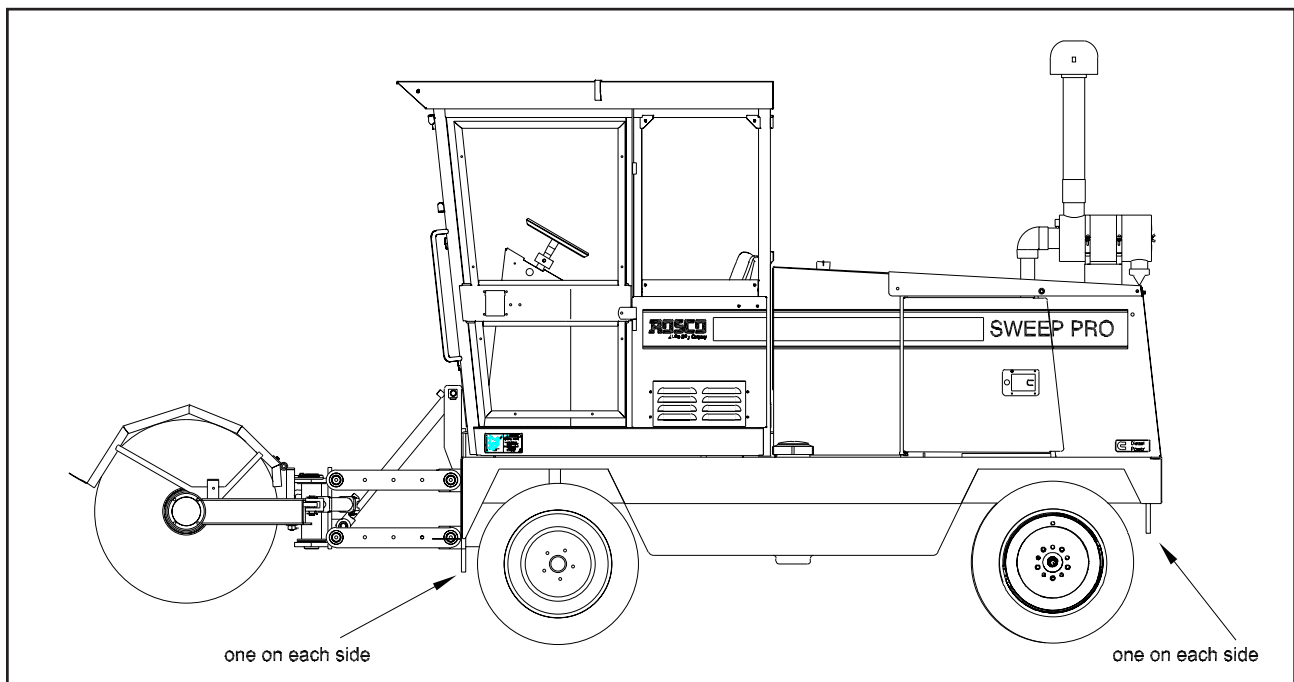

FIGURE 3-8. TIE-DOWN POINTS
12. Secure the machine to the trailer using the tie-downs located at two places on the front and rear of the machine frame. (See Figure 3-8.)